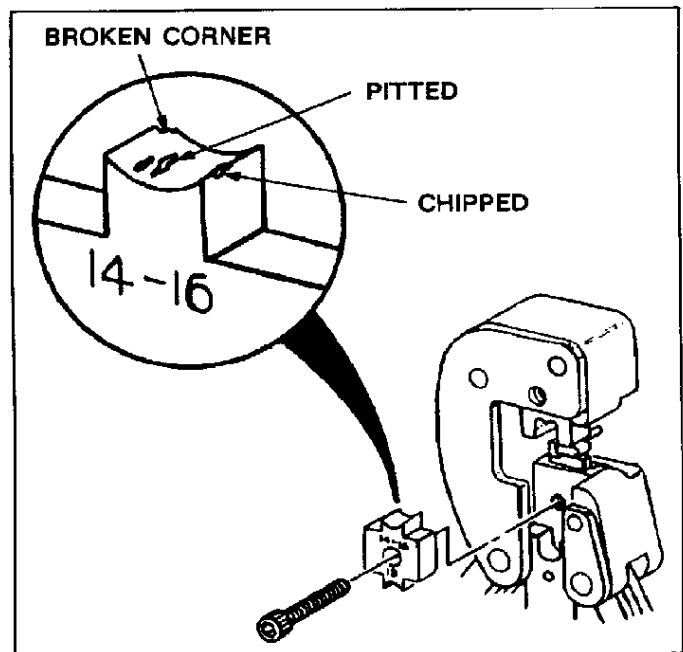

Fig. 3
2. Visually inspect die closure surfaces for broken, pitted or chipped conditions. Although dies may gage within permissible limits, worn or damaged die closure surfaces are objectionable and can affect the quality of the crimp. Examples of possible damaged die closure surfaces are shown in Figure 3.